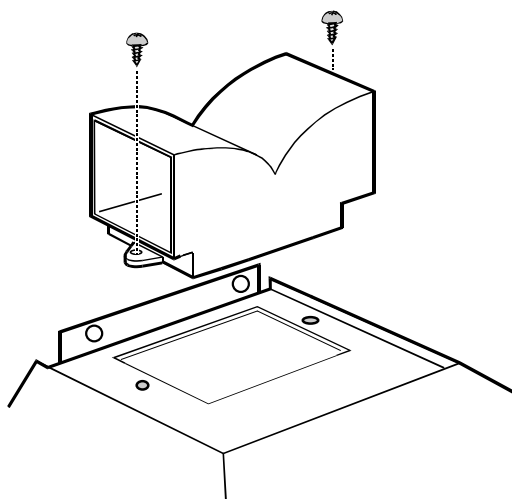

Fig. 2
- Fix the deflector with two screws  $\text{Ø}3,5 \times 6,5$ . Fig. 2.